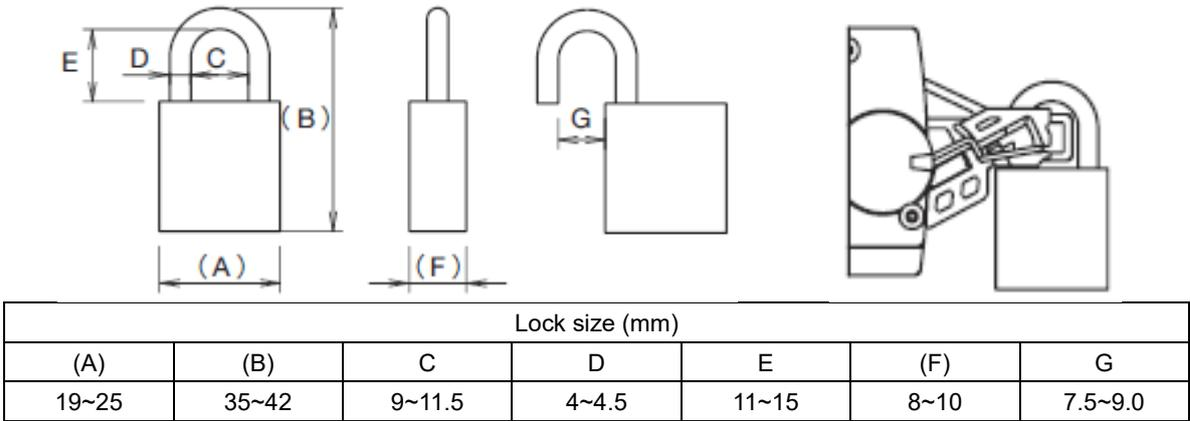

Figure 8.40 Suggest size of lock
5. Lock size. See figure 8.40.